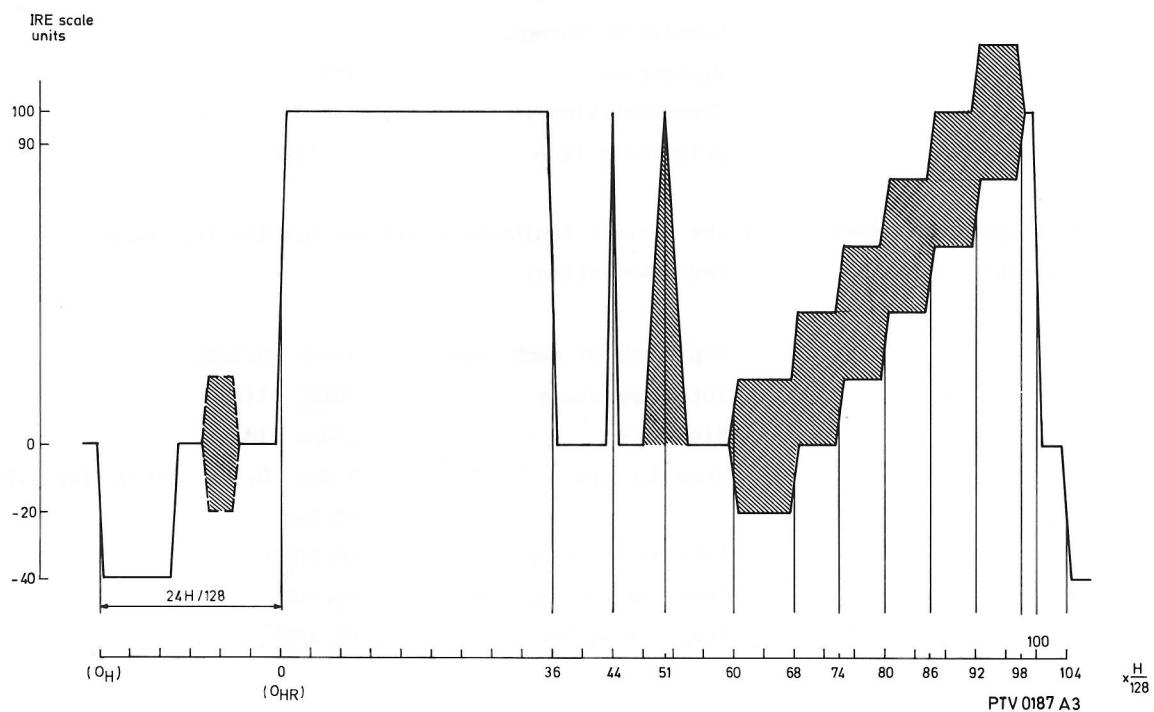

Fig. 3-6 NTC-7 composite
#### 1. (A) NTC-7 composite test signal (See also fig. 3-6)